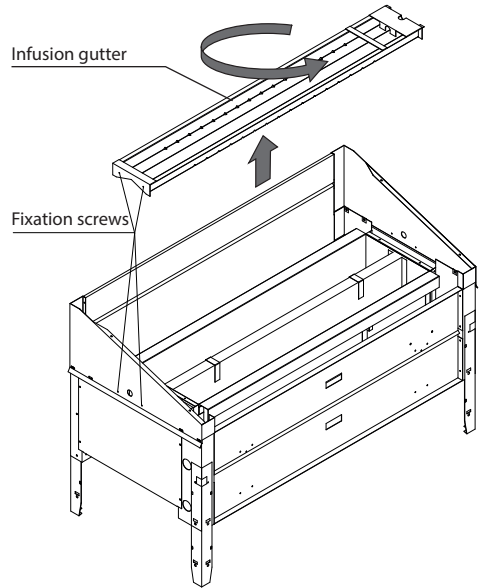

Fig. 5
- **Notice:** If necessary also turn the gutter around, so that it declines away from the funnel connection (see § 6, Fig. 5).
- Unscrew 4 screws on both sides (Fig. 5)